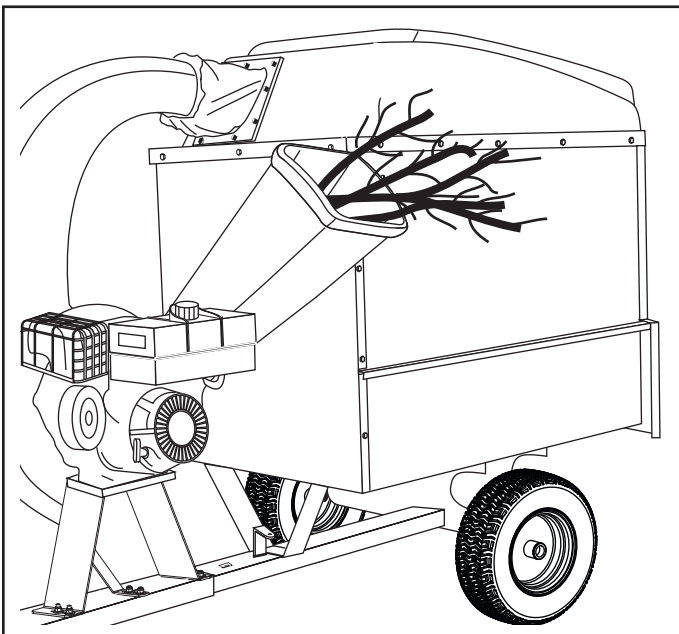

FIGURE 19
1. Material such as stalks or heavy branches up to 2" in diameter may be fed into the chipper chute as shown in figure 19.